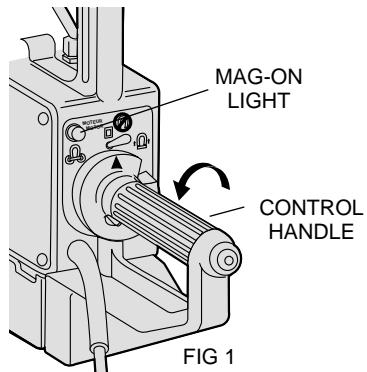
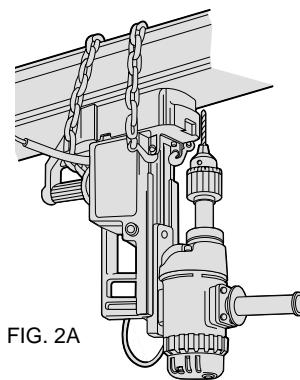
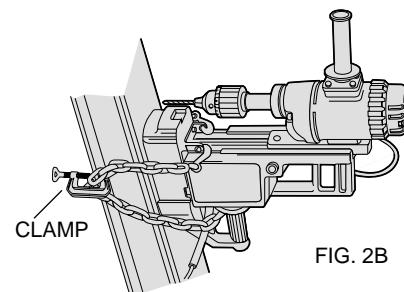

FIG. 1
FIG. 2A
FIG. 2B
1. Place drill press on work surface so that drill point or cutter pilot is directly over spot to be drilled. Pull trigger and twist control handle counterclockwise until MAG-ON light glows, indicating the magnet is energized. Figure 1. When drilling in an overhead or vertical position, the safety chain must be employed. See Figure 2A & 2B for two suggested positions. The use of a clamp between the chain loops as shown in Figure 2B will prevent the mag press from falling when in the demag operation. (Clamp not included).